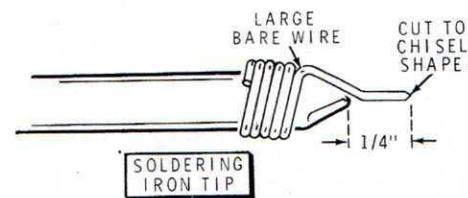

Figure 1
- If a small wattage, small-tip soldering iron is not available, proceed as follows: Be sure your soldering iron is cool. Wrap the large bare wire (supplied) tightly around the soldering iron tip as shown in Figure 1. Allow approximately 1/4" of wire to extend beyond the end of the soldering iron. Cut the wire end to a